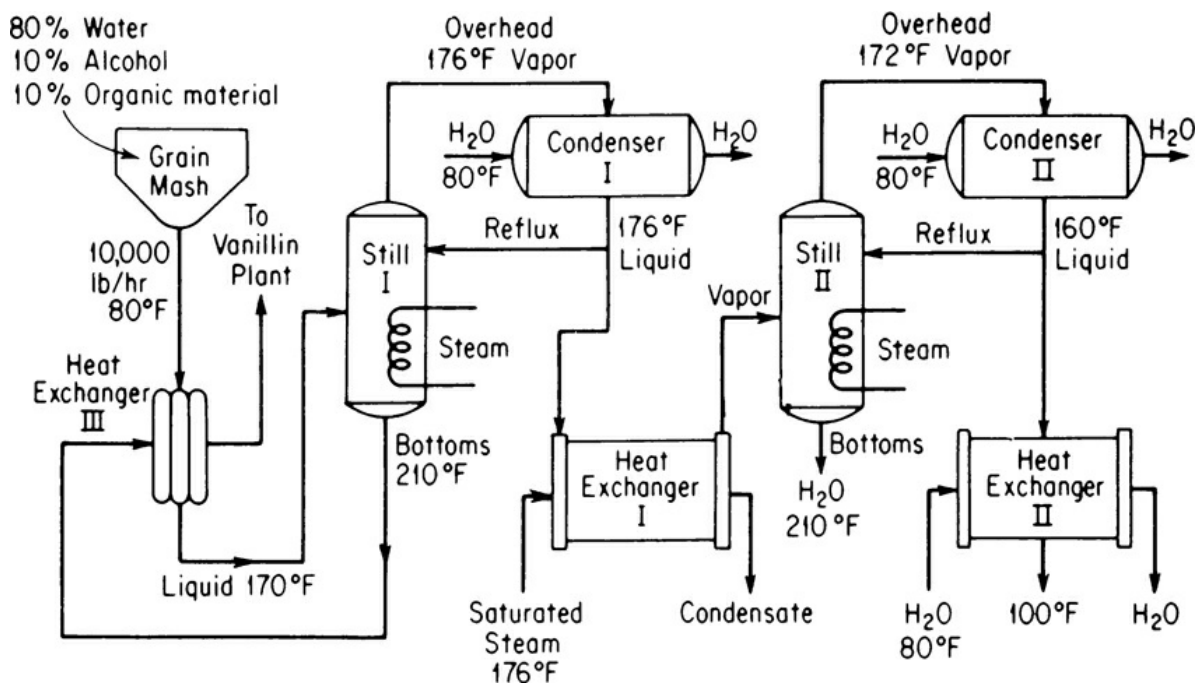

Figure P14.7
14.7 The Blue Ribbon Sour Mash Company plans to make commercial alcohol by a process shown in Figure P14.7. Grain mash is fed through a heat exchanger where it is heated to 170°F. The alcohol is removed as 60% by weight alcohol from the first fractionating column; the bottoms contain no alcohol. The 60% alcohol is further fractionated to 95% alcohol and essentially pure water in the second column. Both stills operate at a 3:1 reflux ratio and heat is supplied to the bottom of the columns by steam. Condenser water is obtainable at 80°F. The operating data and physical properties of the streams have been accumulated and are listed for convenience: